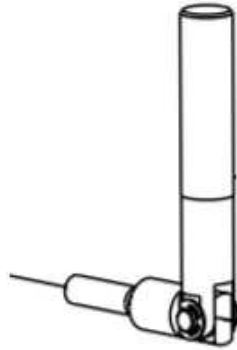

Figure 7
- If the head *will never* move from left to right, then install the monitor on the shelf. Avoid hitting the pivot handle (see Figure 7 below). If the head *will* be moving, then place the monitor on the table top next to the machine. This way, the pivot handle can be easily reached and moved as necessary.